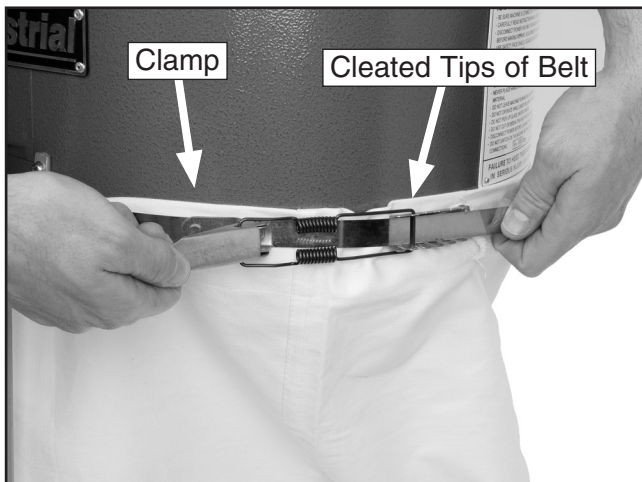

Figure 12. Securing collection bag onto collector.
1. Place the collection bag over the bottom edge of the collector and secure the bag clamp as shown in **Figure 12**.